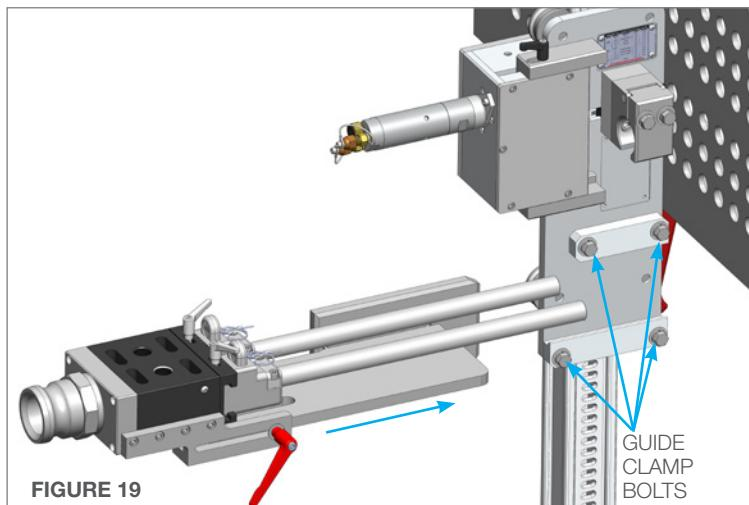

FIGURE 19
18. Using a 9/16 in. wrench, loosen all four Guide Clamp Bolts located on the Vertical Carriage. Install the Guide Plate Assembly into the Guide Clamps. (**Figure 19**) This is the procedure for all Kits. The 2 Lance, Snout Mount is shown in Figure 19.